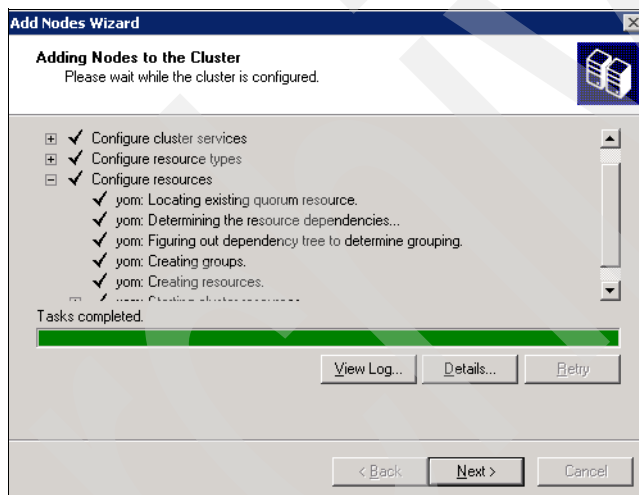
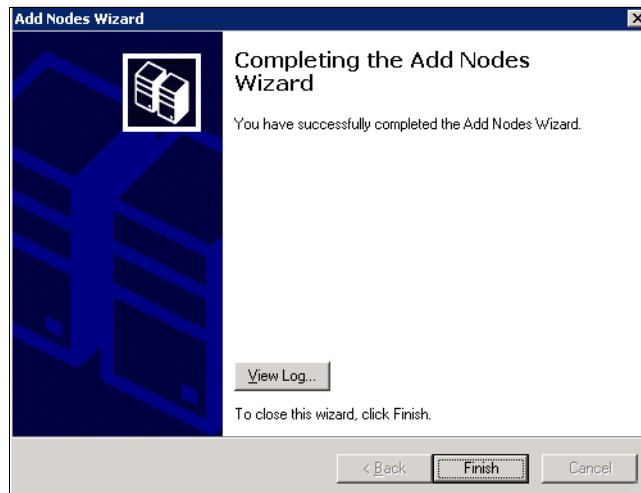

Figure 25-44 Adding Nodes to Cluster Complete
Figure 25-45 Completing the Add Nodes Wizard
11. Once the wizard has finished, click **Next** (Figure 25-44) and **Finish** (Figure 25-45 on page 638) to complete the addition of the second node.